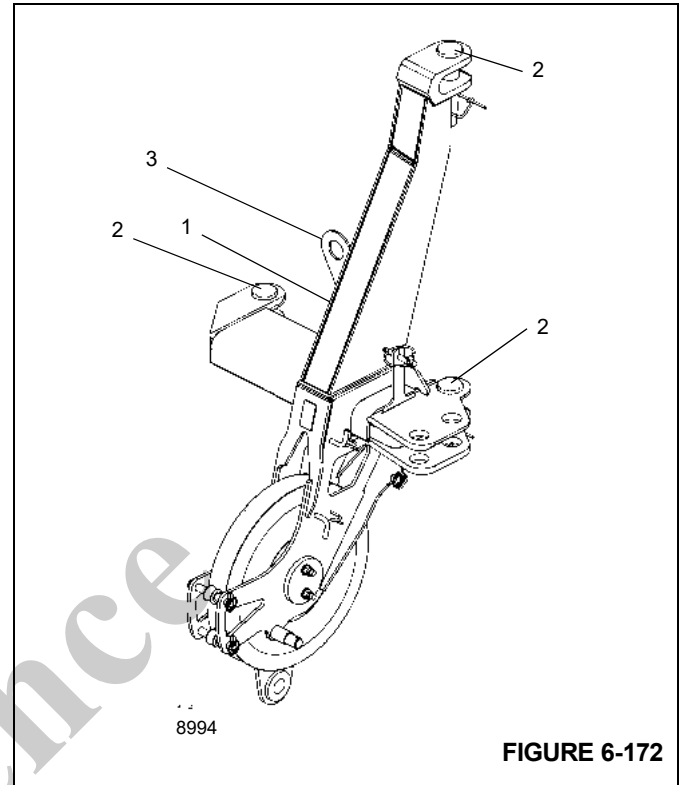

FIGURE 6-172
The serial number (1), (Figure 6-172) is on a plate on the right side on the auxiliary single-sheave boom nose.
1. Remove the retaining clips from the pins (2), (Figure 6-172) and remove the pins from the attachment lugs (Figure 6-172).
2. Use an auxiliary crane attached to the lifting eye (3), (Figure 6-172) on the auxiliary boom nose and lift it to the front of the main boom head.